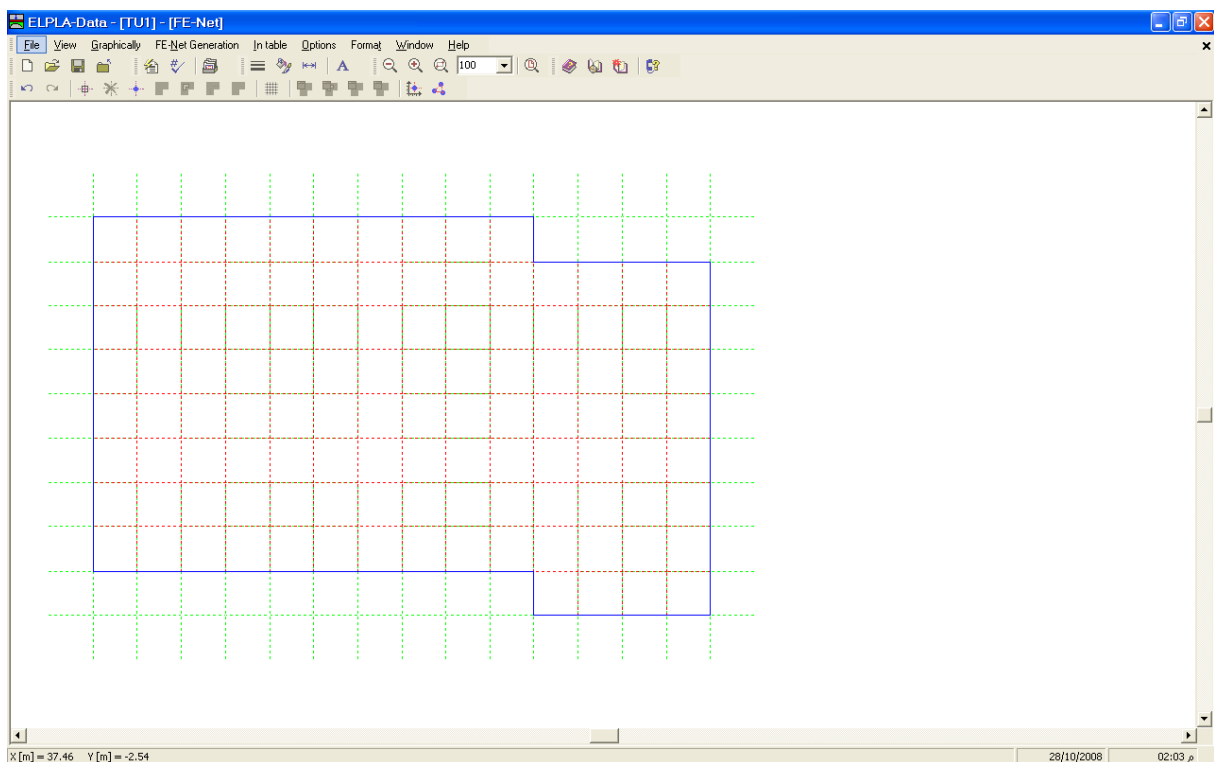

Figure 13-14 Final FE-Net after deleting the unnecessary nodes
To remove the selected nodes, choose "Remove nodes" command from the "Graphically" menu. The action of this command is indicated in Figure 13-14. To leave the graphic mode, press "Esc" key.
- Choose "Save FE-Net" command from "File" menu in Figure 13-14 to save the data of the FE-Net
- Choose "Close FE-Net" command from "File" menu in Figure 13-14 to close the "FE-Net" embedded program and to return to the main window of *ELPLA-Data*